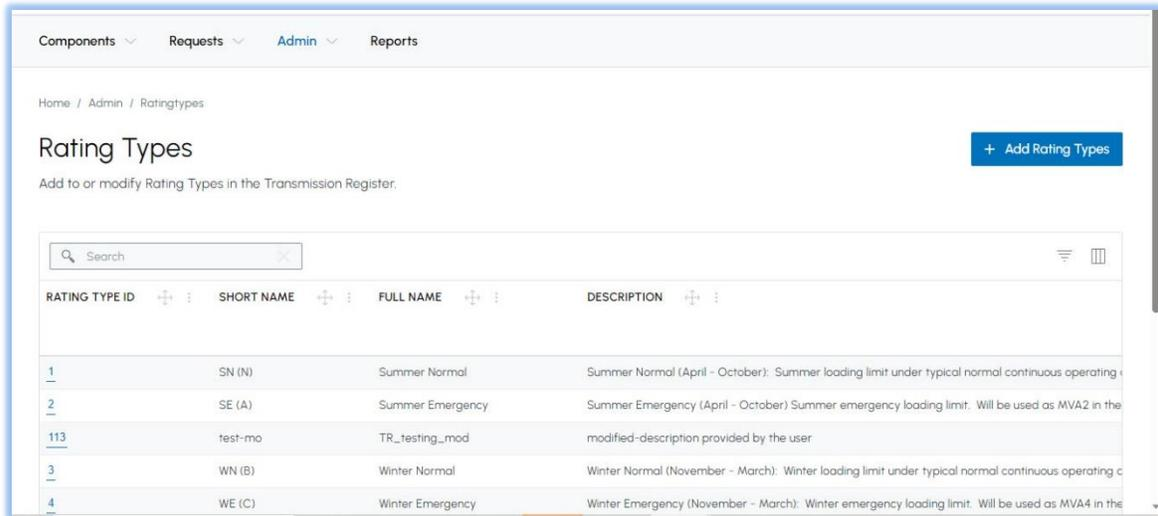

Figure 30 Rating Types Screen
- 2) Click the View Rating Type or Rating Type ID hyperlink to view the details of a rating type, and the example shown in Figure 30 loads.